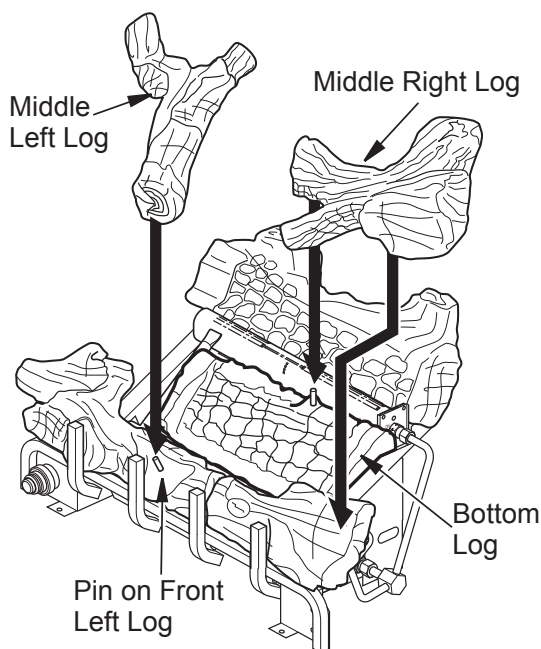

Figure 25 - Installing Log Sets
5. Place middle right log over front right and bottom logs as shown in **Figure 25**. Be sure hole in middle right log seats over pin in bottom log.
6. Place middle left log over front left and bottom logs as show in **Figure 25**. Be sure hole in middle left log seats over pin in front left log.